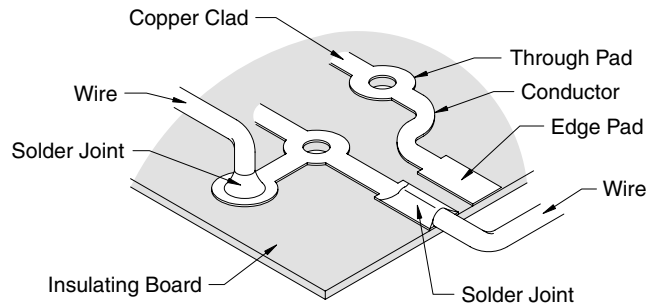

Figure 9-16 PC Board Solder Connection
Printed circuit (PC) board connections are usually a copper pad that is bonded to an insulating board. A wire is simply placed into the hole and the solder is flooded into the joint. Edge pads are also provided for connecting wires, as shown in Figure 9-16. Edge pads do not provide a mechanical element to the connection and should only be used where redundancy is not critical.